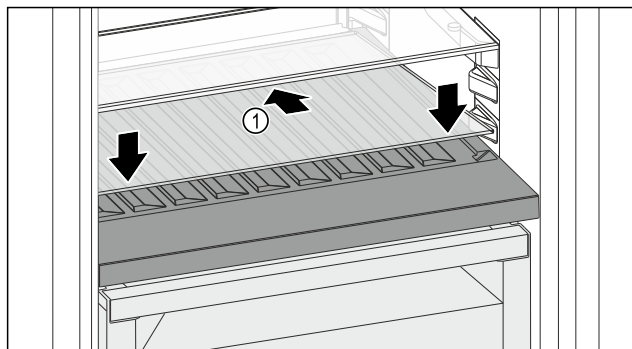

Fig. 98
- Place the glass shelf Fig. 98 (1) at an angle, tilted back and down.
- Lower the glass shelf Fig. 98 (1) at the front.